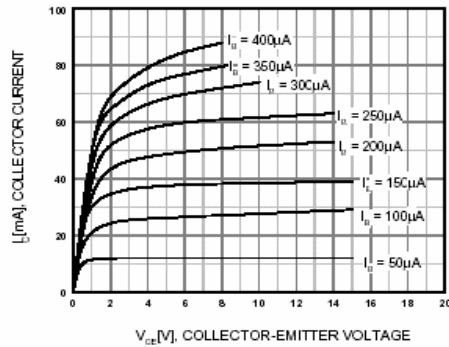

Figure 1. Static Characteristic
The Hartley oscillator is one of the simplest and best known oscillators and is used extensively in circuits, which work at radio frequencies. Figure 1 shows the basic Hartley oscillator circuit configuration. The transistor is in voltage divider bias which sets up Q-point of the circuit. The output voltage is fed back to the base and sustains oscillations developed across the tank circuit, provided there is enough voltage gain at the oscillation frequency.
**Hartley Oscillator****Figure 1**